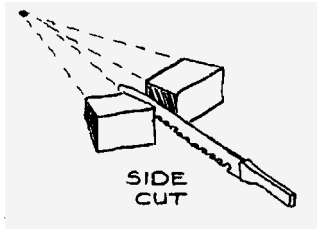

Figure 11-15
- Remember that side cuts are toward the center as in figure 11-15.